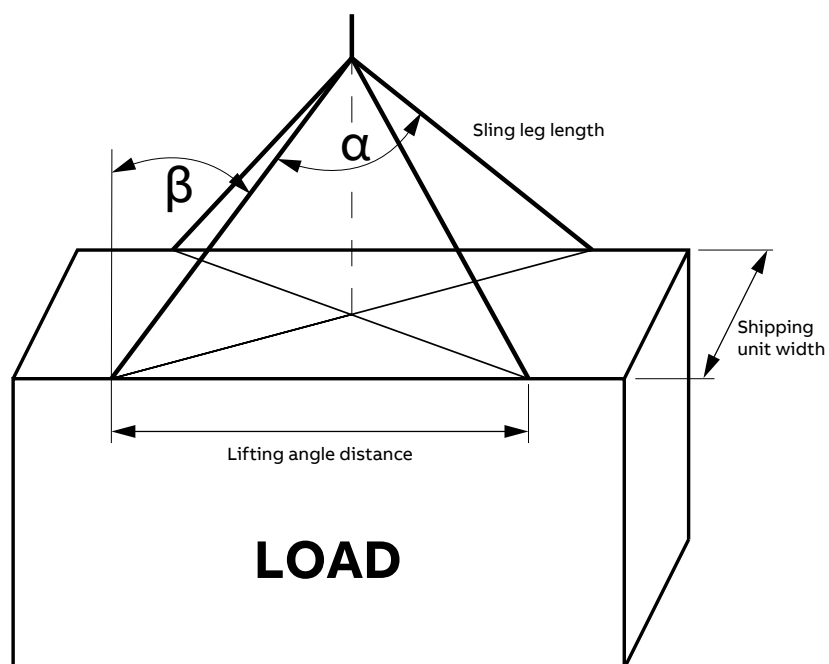

Figure 3-16 Four legs sling arrangement and legs angle at crane hook definition
- Lifting capability of four legs sling at legs angle at crane hook "α" (angle depend of length of sling leg, lifting angle distance, shipping unit width – see Figure 3-16) must be equal or bigger than mass of transported shipping unit.
- The sling legs angle at the crane hook "α" must not be larger than 120° (see Figure 3-16).